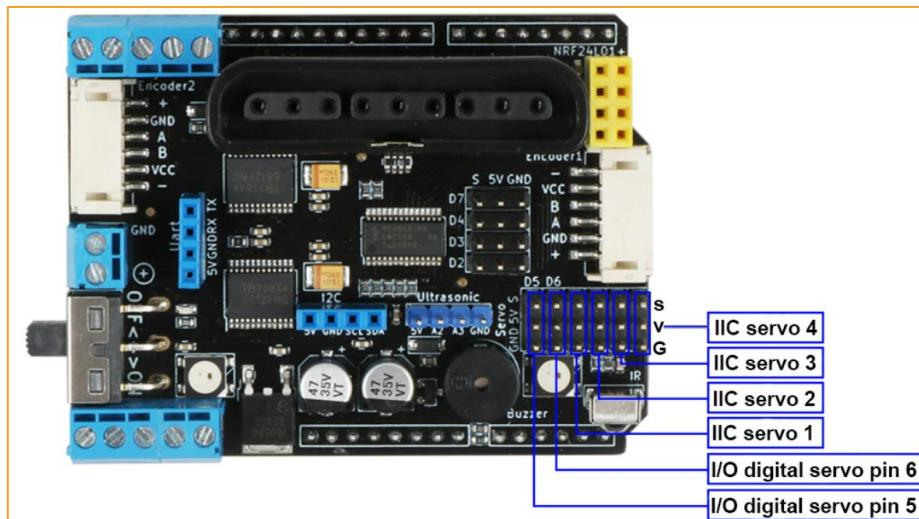

Figure 4-1-6 Steering gear pin definition
The PS2X&Motor Driver Board driver board can drive the servo, the servo pin position on the driver board (red pin), with ground pin (GND), power pin (VCC) and signal pin (S), three The pins are respectively connected to the corresponding pins of the servo, and the servo can be controlled by I2C communication. The position of the servo test program is "courseware code\module test program\rudder test program\Servo_Test\Servo_Test.ino", I/O digital input Pins 5 and 6 are also integrated into the library, and the servo pin pins are defined as shown in Figure 4-1-6.